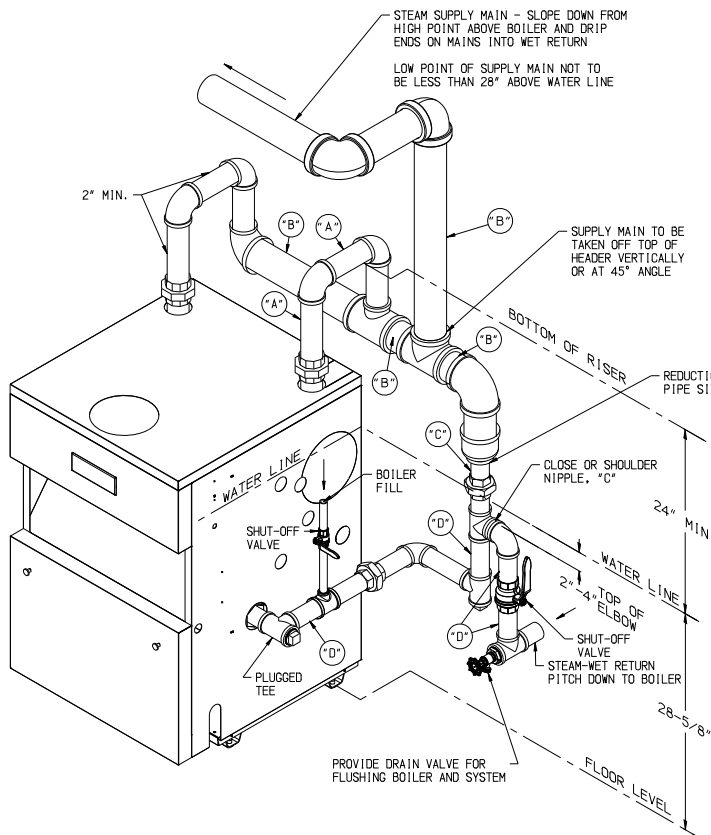

Figure 8-4: Steam Boiler Piping for Gravity Return, Drop Header Piping
6. The optional "drop header" piping shown in Figure 8-4 is useful when there is limited overhead clearance between the boiler and the mains. The riser closest to the equalizer can be omitted on the AGS3 through AGS6.